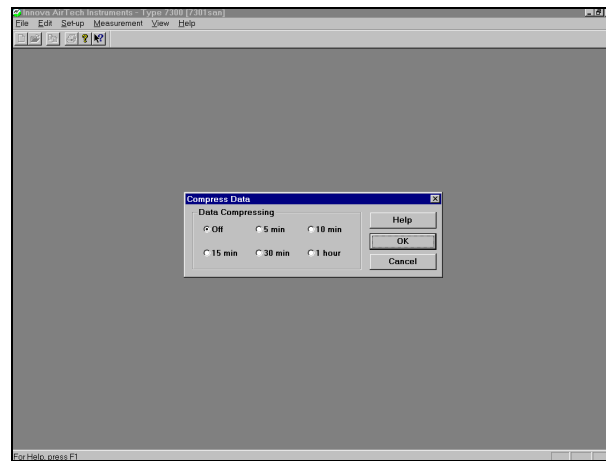

Fig.A.7 The Data Compressing dialogue
1. Pull down the **File** menu and click on **Compress Data**. The Data Compressing dialogue will be displayed, Fig.A.7.